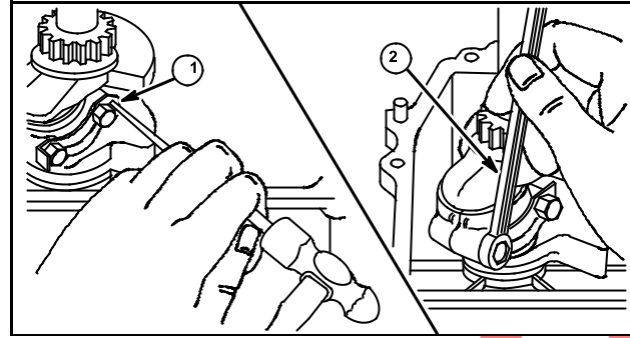

Fig. 1
1. Bend down rod bolt lock (1), when used, Fig. 1. Connecting rods without rod bolt locks use one or two thin washers, or washer-head bolts. On connecting rods with dippers held by both connecting rod bolts, no washers or rod bolt locks are used.
2. Remove connecting rod cap (2).